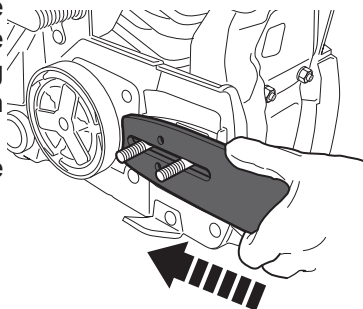

Fig. 4
- > Place the slot in the guide bar (4) over the bolts (19). Push the guide bar (4) to the left towards the drive sprocket (22) (behind the clutch (21)) (Fig. 4).